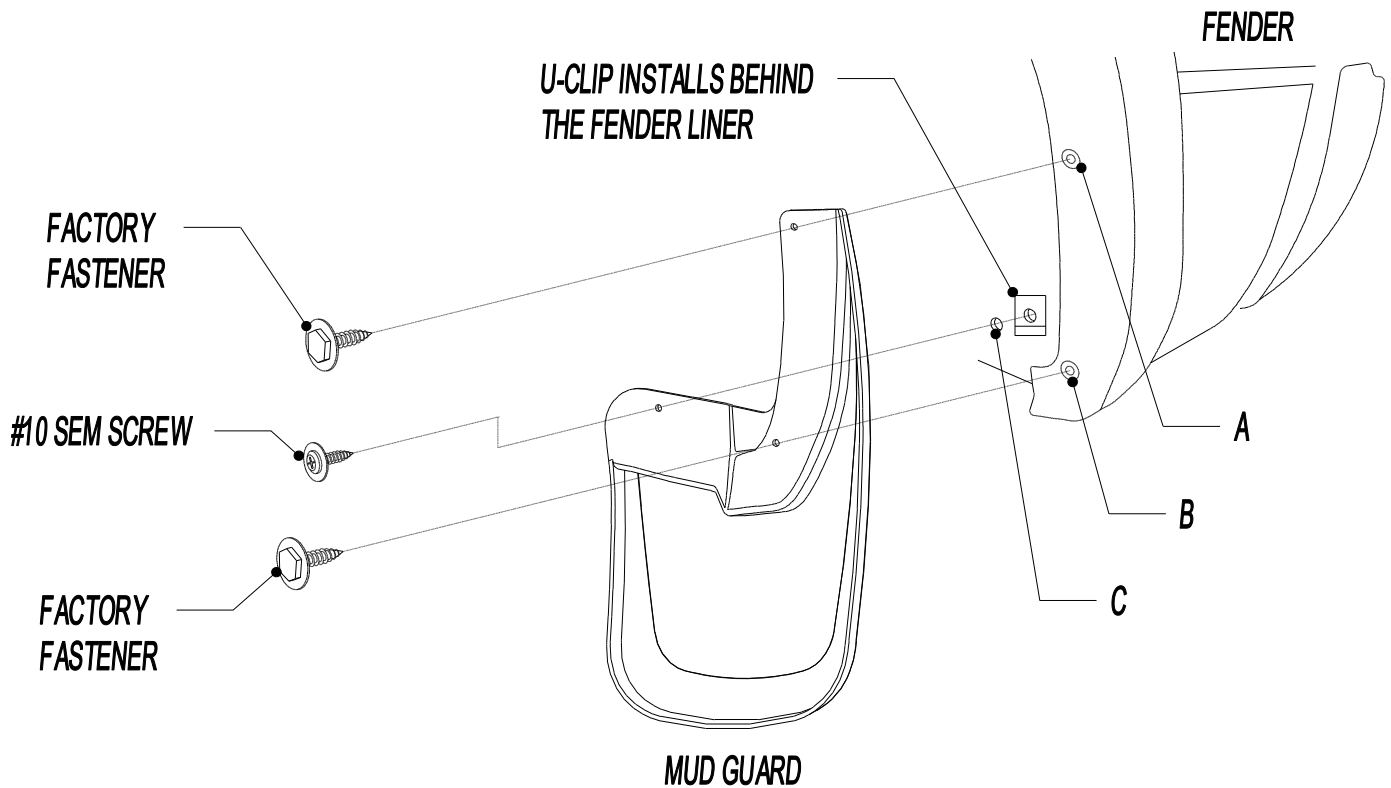

Figure 1
1. Remove the existing fasteners from locations A and C (Figure 1).
1. Remove the existing fasteners from locations A and B (Figure 1).